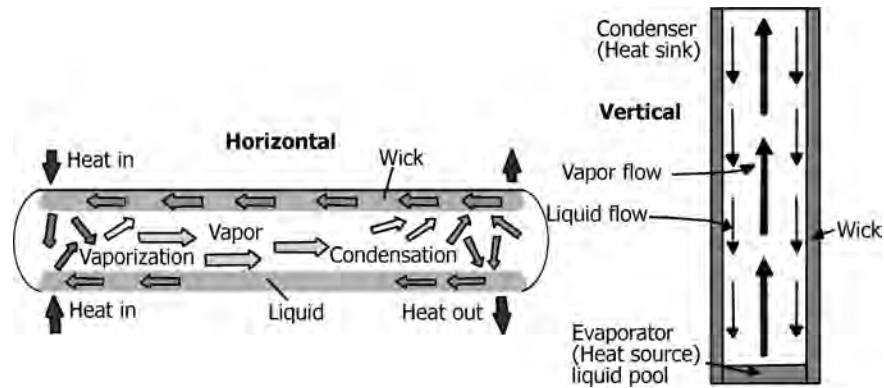

FIGURE 13.19 Heat pipes.
- Figure 13.19 illustrates the principle of heat pipes and their constructional features.